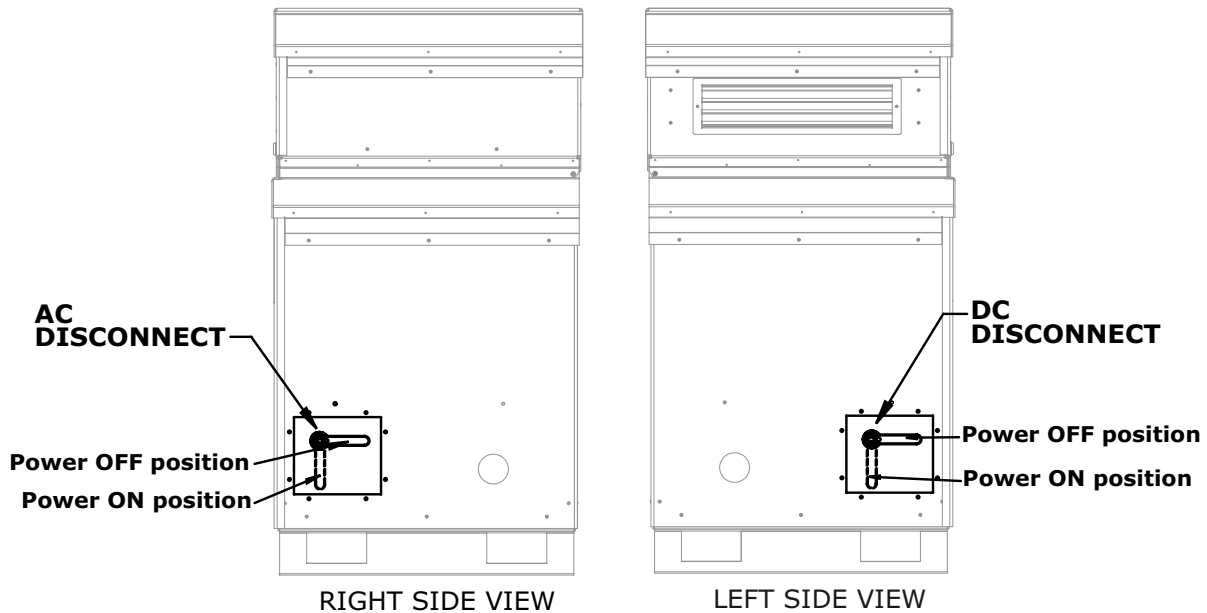

Figure 6-2 AC and DC Power OFF Levers
3. Turn the AC Disconnect to the power ON position (Figure 6-2).
4. Turn the DC Disconnect to power ON position (Figure 6-2). The VFD on the upper front panel should now be active if there is DC voltage present from the array.
1. Turn the AC power off by rotating the AC disconnect to the OFF position as shown in Figure 6-2.
2. Turn the DC power off by rotating the DC disconnect to the OFF position as shown in Figure 6-2.